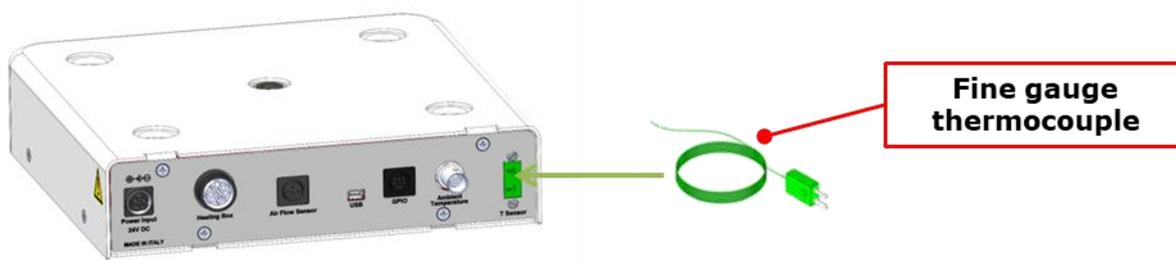

Figure 29. Fine gauge thermocouple
1. Plug the green Fine Gauge Thermocouple in the port labeled “T sensor” (see Figure 29) located in the rear panel of the Temperature Control Unit